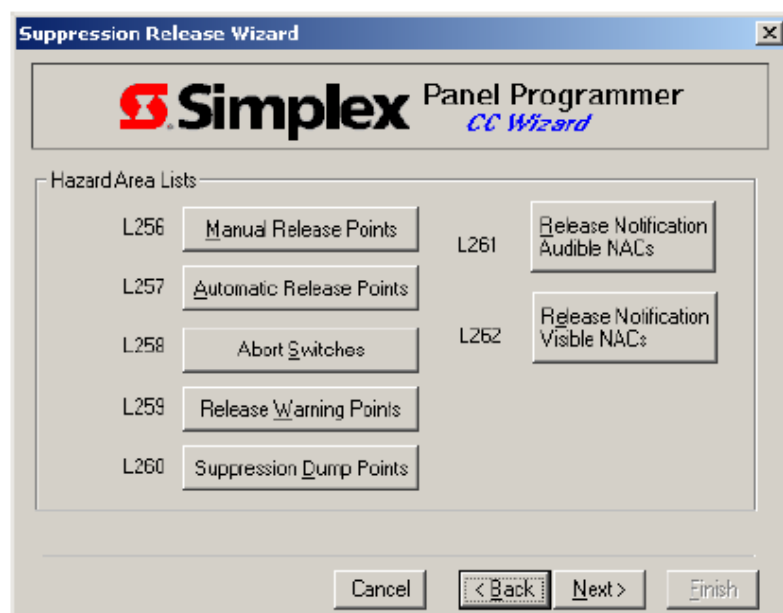

Figure 10-33. Tag List Buttons
3. Click **OK** when you are finished selecting points. The screen containing the Tag List buttons (Figure 10-33) reappears. Click the **Next** button at the bottom of this screen when all points associated with this hazard area have been chosen.